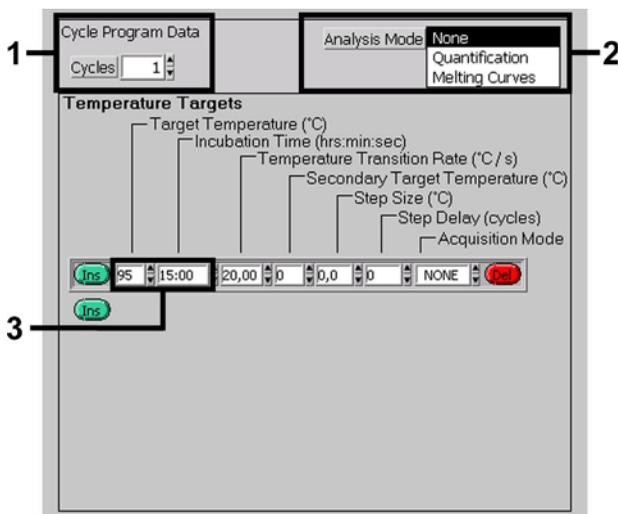

Fig. 3: Initial Activation of the Hot Start Enzyme
For the detection of *Borrelia* DNA, create a temperature profile on your *LightCycler* 1.1/1.2/1.5 Instrument according to the following three steps (see Fig. 3 - 5).
- A. Initial Activation of the Hot Start Enzyme Fig. 3